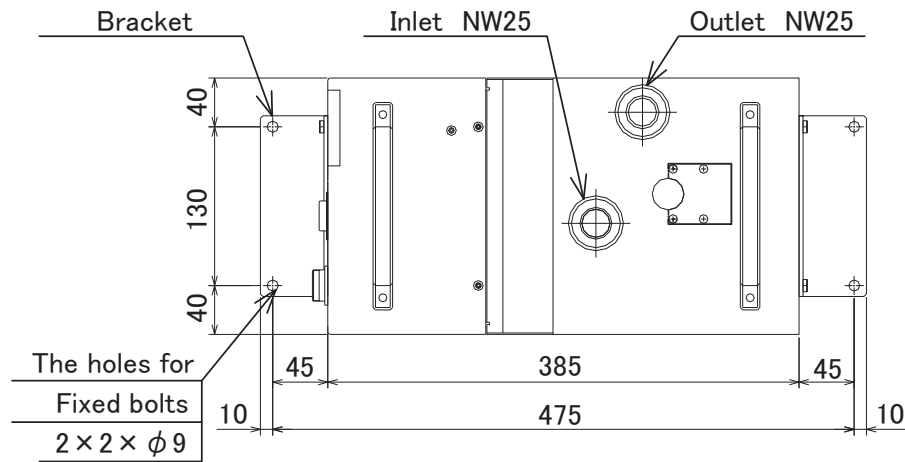
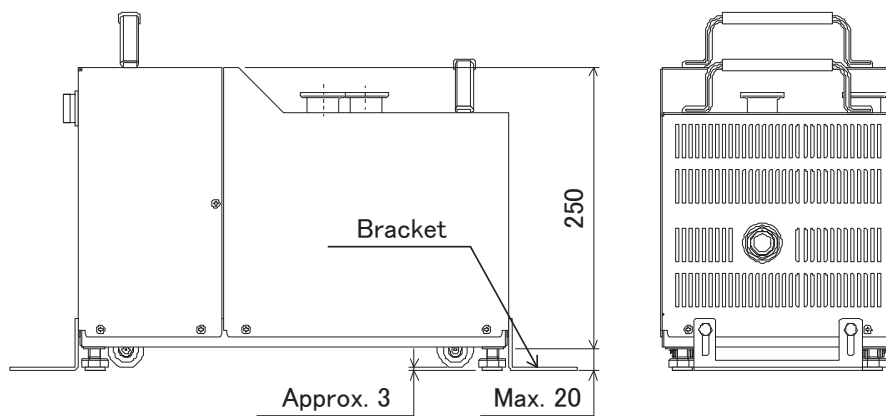

Fig.4.1 Pump fixation position
Fig.4.2 How to fix the pump with casters and adjusters
*Please fix the pump with appropriate bracket. (Fig.4.1, Fig.4.2)